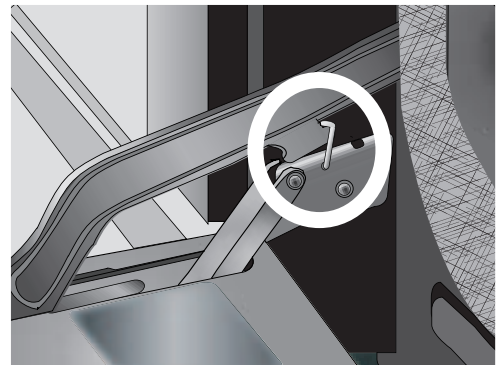

Figure 15: Hinge Bracket Locked Into Place
3. Lift hinge brackets (one on each side) into slots (see Figure 15).